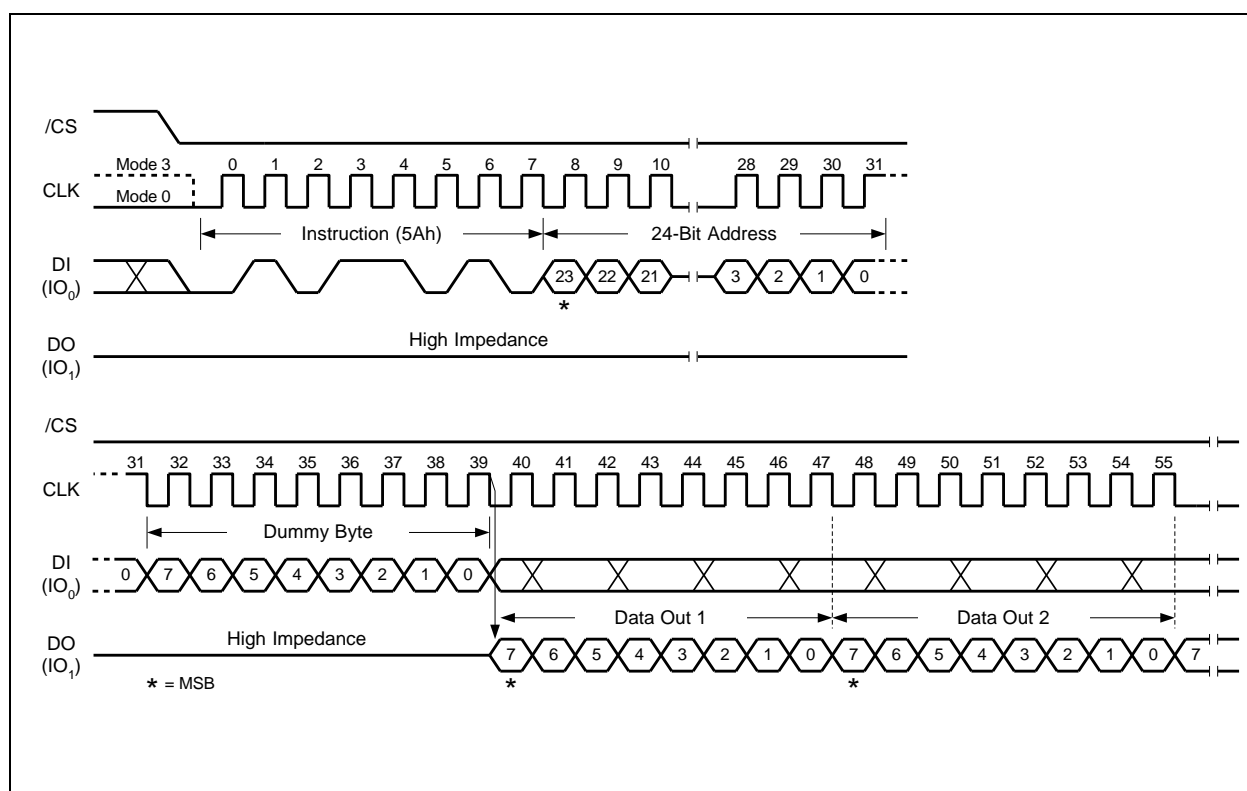

Figure 51. Read SFDP Register Instruction Sequence Diagram
The Read SFDP instruction is initiated by driving the /CS pin low and shifting the instruction code "5Ah" followed by a 24-bit address (A23-A0)(1) into the DI pin. Eight "dummy" clocks are also required before the SFDP register contents are shifted out on the falling edge of the 40th CLK with most significant bit (MSB) first as shown in Figure 51. For SFDP register values and descriptions, please refer to the Winbond Application Note for SFDP Definition Table.